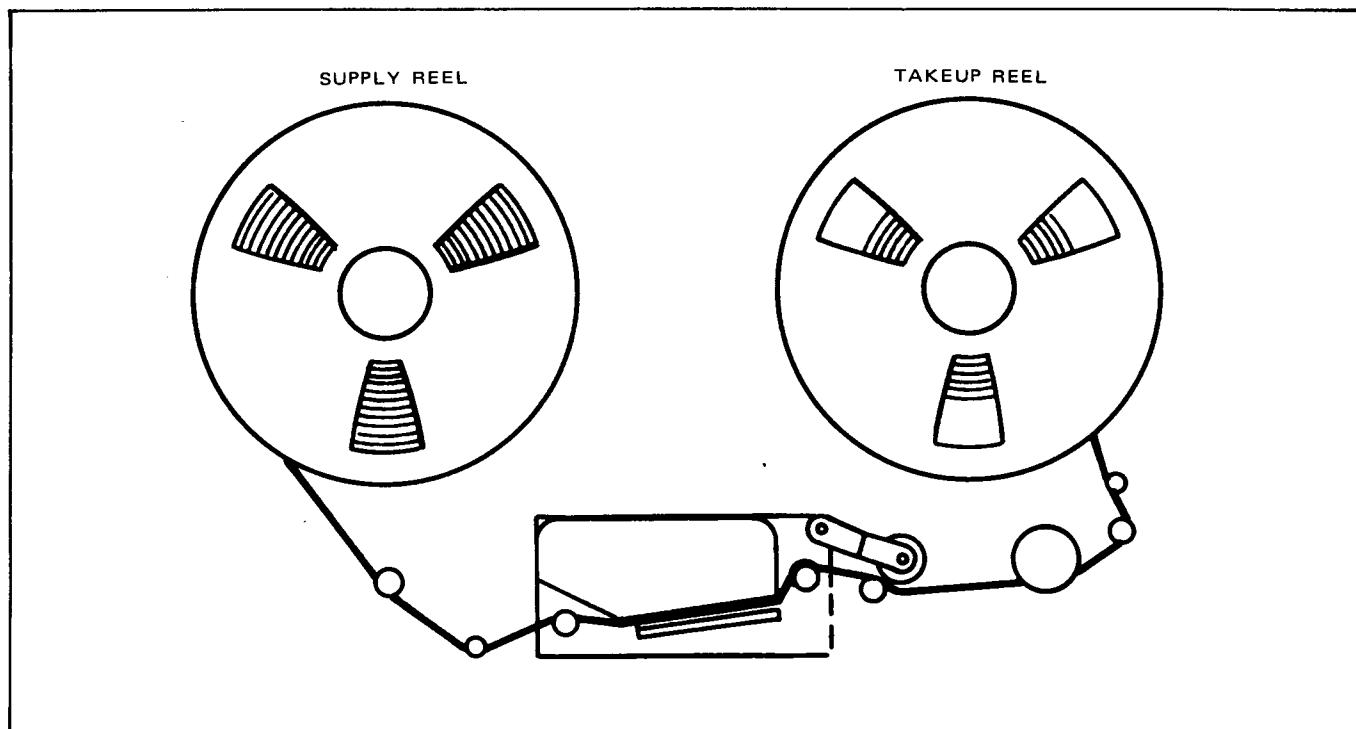

Figure 3-1. Tape Threading Path
4. Thread a bulk-erased reel of tape onto the transport as shown in Figure 3-1, close the head gate, and release the end-of-tape arm.
4. Thread a tape with a previously recorded channel or channels onto the tape transport assembly as shown in Figure 3-1, close the head gate, and release the end-of-tape arm.
4. Thread the tape to be reproduced onto the tape transport assembly as shown in Figure 3-1.